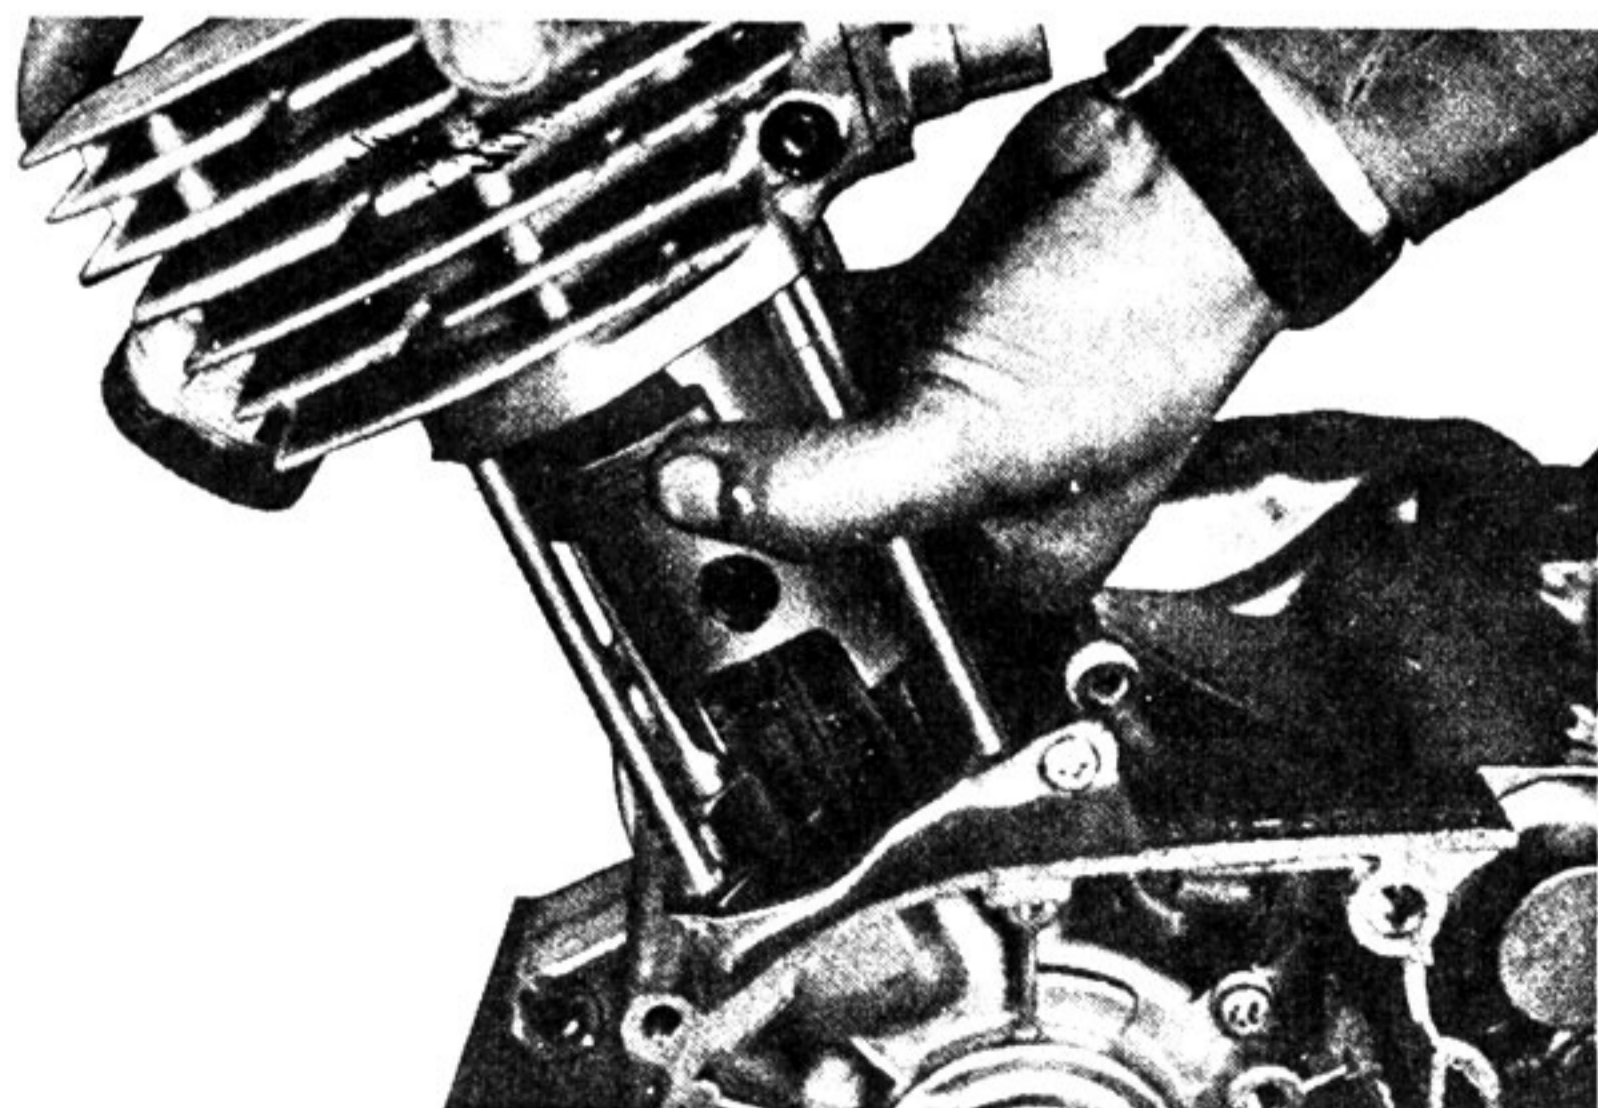

Fig. 4-3-9
b. When installing the cylinder over the piston, squeeze the piston rings into their grooves (their end gaps should close on the knock pin) so they will not catch and break on the bottom of the cylinder. (Fig. 4-3-9)